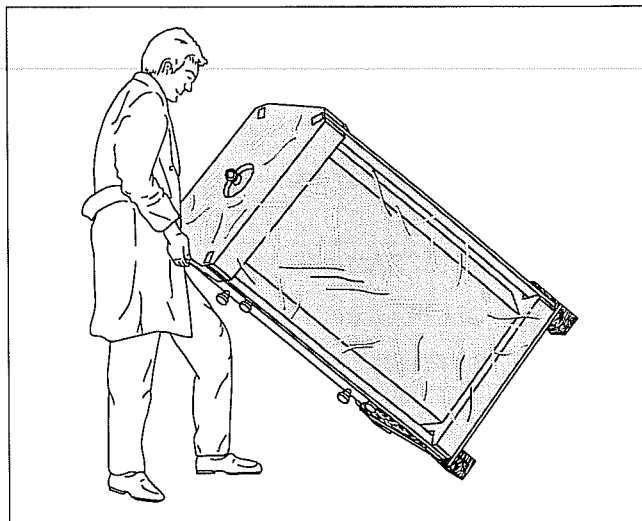

Fig. 4 Placement of tank
- Tip the tank horizontally using the pallet as support (Fig. 4).